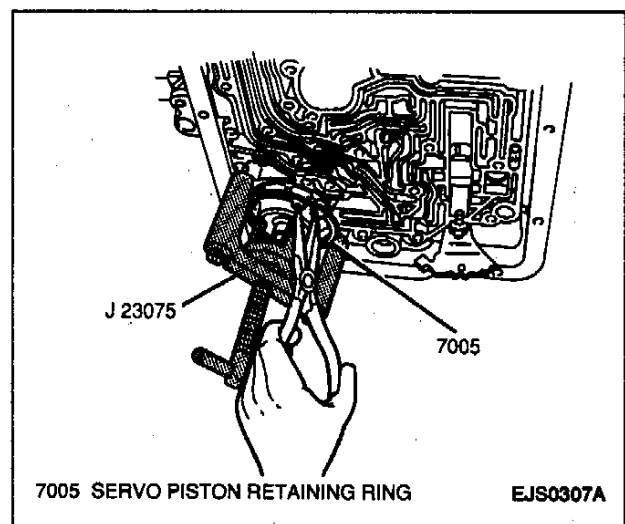

Figure 39—Removing Servo Piston Retaining Ring (3L30, 3-Speed)
12. Install a J 23075 to the transmission with the offset of the tool facing toward the corner of the transmission case (Figure 39).
14. Servo piston retaining ring from servo piston bore in transmission case (Figure 39).